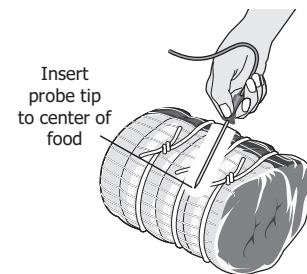

Figure 10: Probe in thickest area of food
- Insert the probe so that the probe tip rests inside the center of the thickest part of meat or food (See Figure 10). For best results, do not allow the probe temperature sensor to contact bone, fat, gristle, or the cookware.